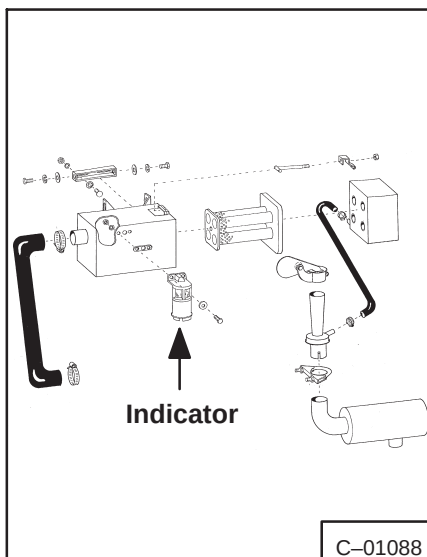

Fig. 1-10 Heavy Duty Air Cleaner
1. An indicator located on front of air cleaner indicates condition of filter (Fig. 1-10).
2. When red ring is in window, remove element and install new element (Fig. 1-10).
4. Inspect and clean vanes on air cleaner (Fig. 1-10).